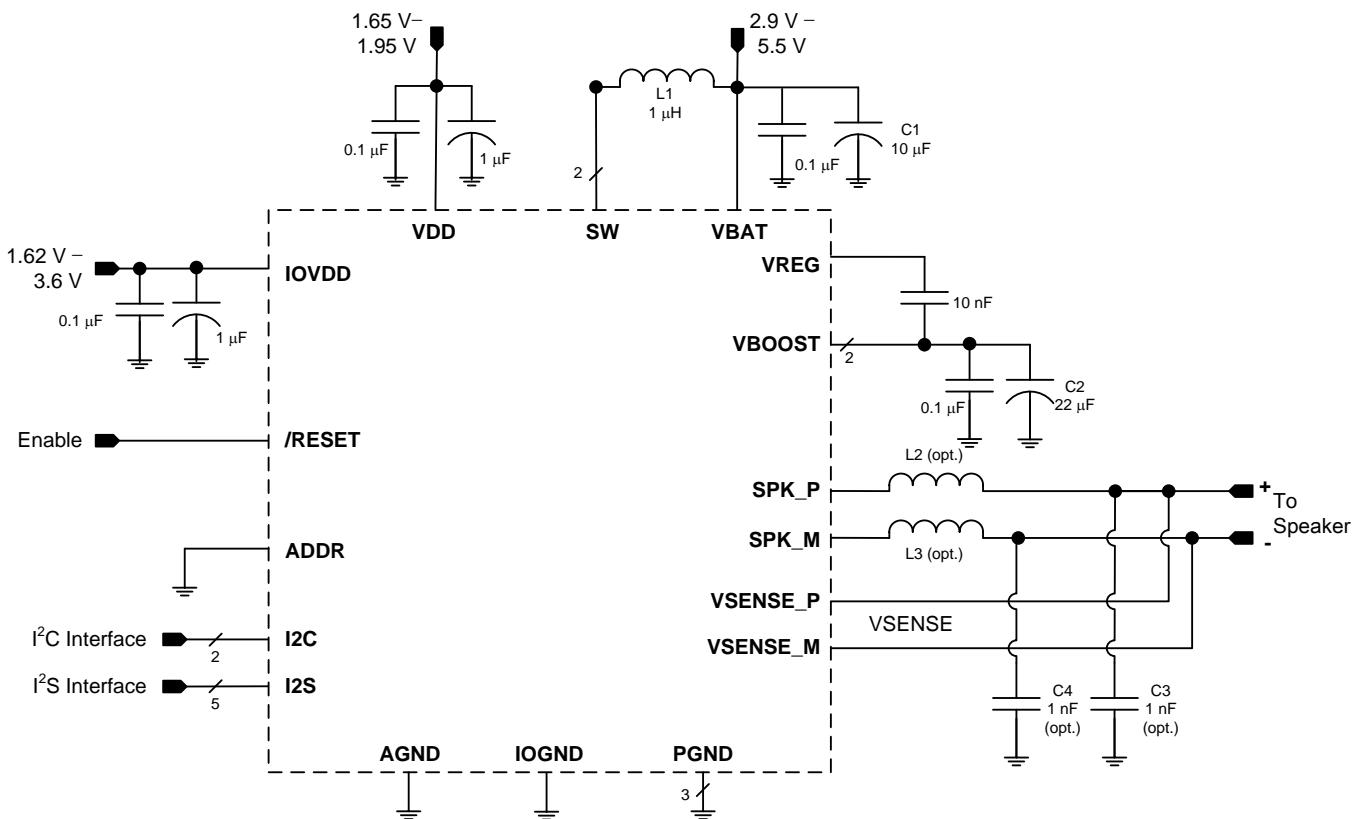

Figure 98. Typical Application - Digital Audio Input
The boost converter requires three passive devices that are labeled L1, C1 and C2 in Figure 98 and whose specifications are provided in Table 101. These specifications are based on the design of the TAS2560 and are necessary to meet the performance targets of the device. In particular, L1 should not be allowed to enter in the current saturation region. The saturation current for L1 should be > ILIM to deliver Class-D peak power.
The TAS2560 supports edge-rate control to minimize EMI, but the system designer may want to include passive devices on the Class-D output devices. These passive devices that are labeled L2, L3, C3 and C4 in Figure 98 and their recommended specifications are provided in Table 101. If C3 and C4 are used, they must be placed after L2 and L3 respectively to maintain the stability of the output stage.
- Use supply decoupling capacitors as shown in Figure 98 and described in Power Supplies.